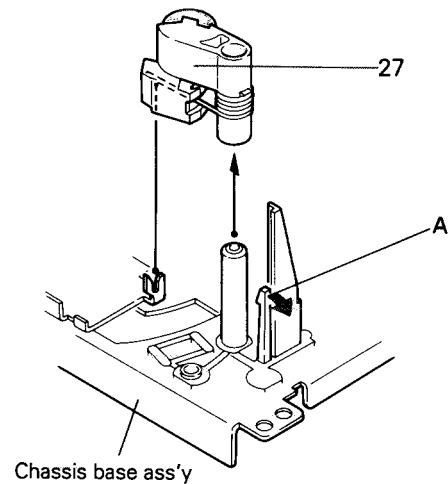

Fig. 7-22
**Note:** After replacing the head mount assembly, make sure to adjust the azimuth screw (46).
■ **Pinch roller assembly** (Fig. 7-22)
1. Expand the pawl (A) retaining the pinch roller assembly (27) on the right side in the direction of the arrow while pulling out the pinch roller assembly upwards.